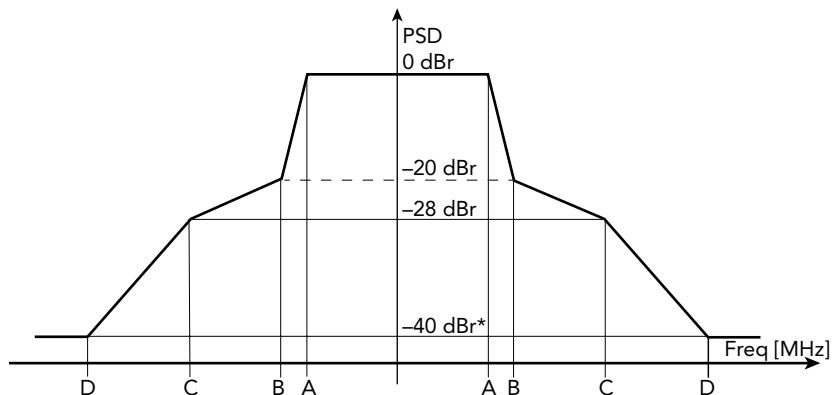

FIGURE 2. Spectral-mask requirements are dependent on signal bandwidth.
- **Transmit spectrum mask.** The spectral mask test verifies that the output spectrum from the device does not interfere with other devices, and that the spectrum meets the mask requirements set in the specification. This test is typically performed at maximum power output from the device. **Figure 2** and **Table 2** summarize the requirements for each signal bandwidth.